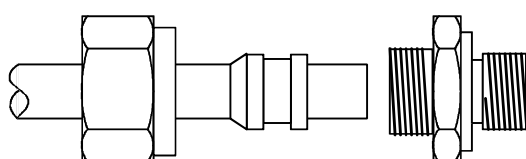

Figure 4-1
Figure 4-1, 4-2 and 4-3 show the parts that form a cutting ring coupling. It is important to note which way the cutting ring is fitted, the following procedure should be followed:
- a) Nut and cutting ring are slid over the pipe, figure 4-1.